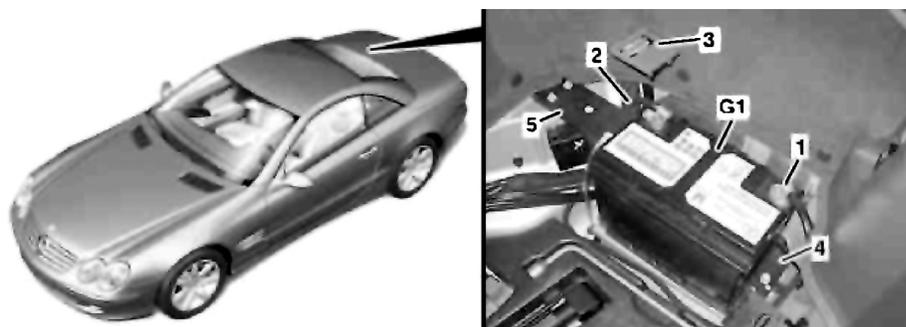

Fig. 2 Primary battery removal. Less (P99) AMG black series
9. Remove bracket (4), **Fig. 2**.
10. Remove positive terminal cover (3), **Fig. 2**.
11. Loosen nut, and disconnect positive lead (2) from on-board electrical system battery (G1), **Fig. 2**.
4. Install bracket (4), **Fig. 2**.
1. Insert on-board electrical system battery (G1), and push against support (5), **Fig. 2**.